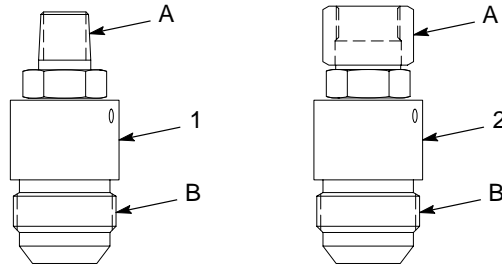

Figure 2 Small Swivels—Typical Combinations
See Figure 2 and refer to Table 3, which lists miscellaneous straight swivel connectors.
NOTE A: Use item 1 (Figure 2) for reference. This swivel looks identical to item 1 but varies in size.